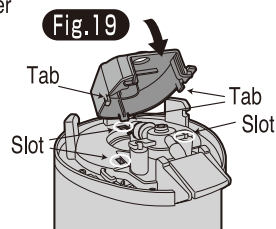

Fig.20
a) Attach the Sight Gauge Tube Cover A to the Sight Gauge Tube. **Fig.20**